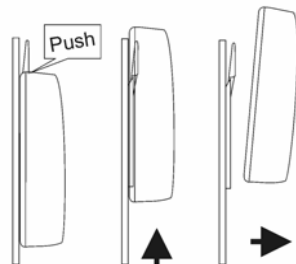

Fig. 4
5. To release the NMEA Interface press lightly on the bracket tab and slide the Transmitter up until it can be pulled away from the surface. (Fig. 4)